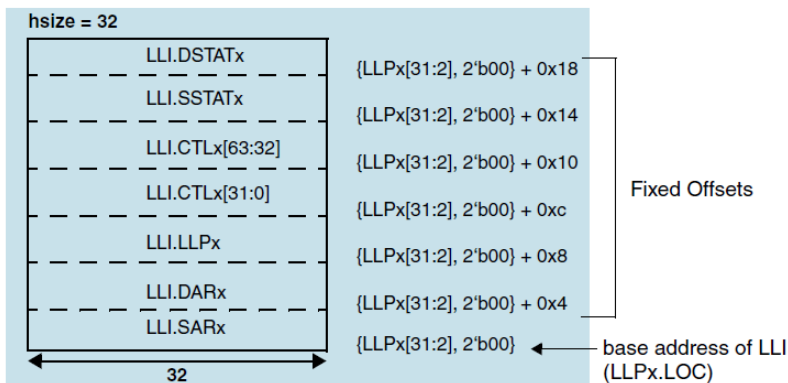
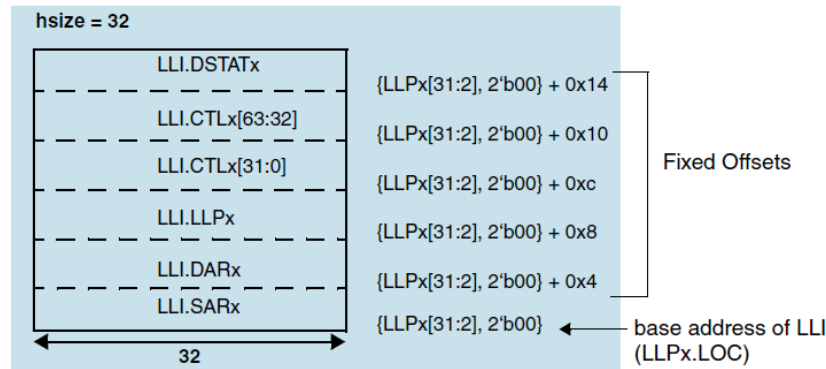

Fig 9-47 Mapping of block descriptor (LLI) in memory to channel registers when DMAH_CHx_STAT_SRC set to true
Fig 9-48 Mapping of block descriptor (LLI) in memory to channel registers when DMAH_CHx_STAT_SRC set to false
Fig 9-47 and Fig 9-48 show the mapping of a Linked List Item stored in memory to the channel registers block descriptor.
- Throughout this databook, there are descriptions about fetching the LLI.CTLx register from the location pointed to by the LLPx register. This exact location is the LLI base address (stored in LLPx register) plus the fixed offset. For example, in Fig 9-47, the location of the LLI.CTLx register is LLPx.LOC + 0xc.